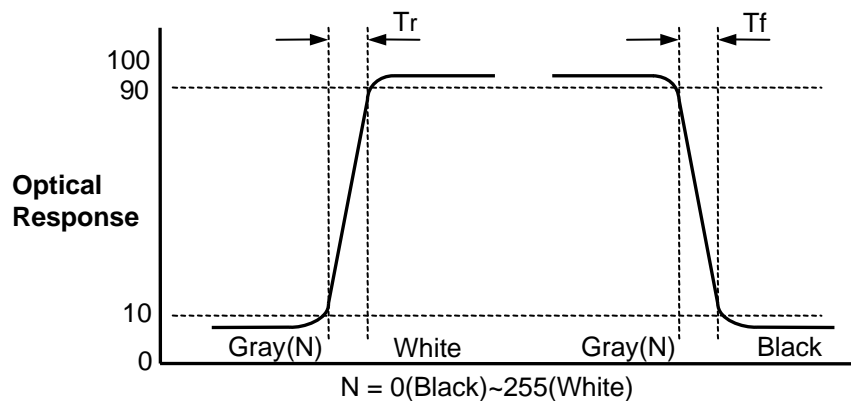

FIG. 2 Response Time
- 2. Response time is the time required for the display to transit from any gray to white (Rise Time, Tr_R) and from any gray to black (Decay time, Tr_D). For additional information see the FIG. 2.